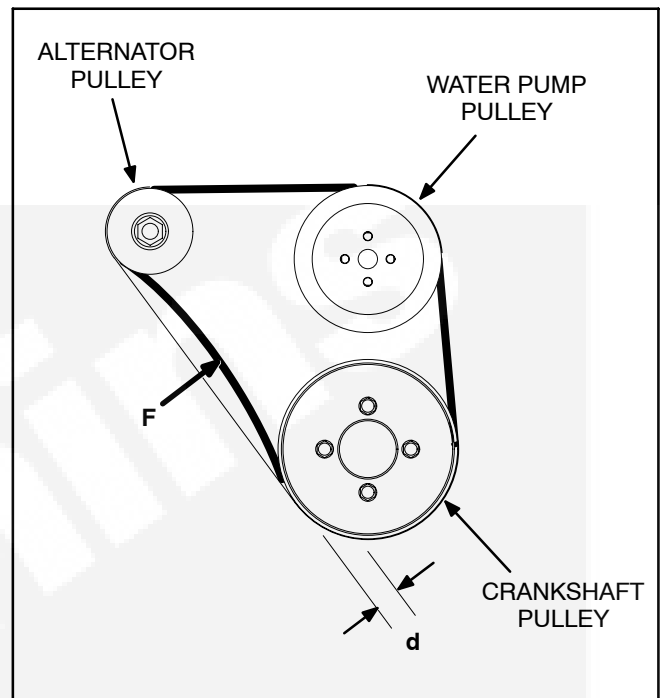

FIGURE 7-6. DRIVE BELT ADJUSTMENT
To check belt tension, remove the belt guard and push the fan belt midway between the two pulleys shown in Figure 7-6. Use a spring balance to measure force (F) and a straight edge and ruler to measure belt deflection (d). Belt deflection should be 3/16 inch (4.8 mm) under a force of 5.0 pounds (22.0 N).